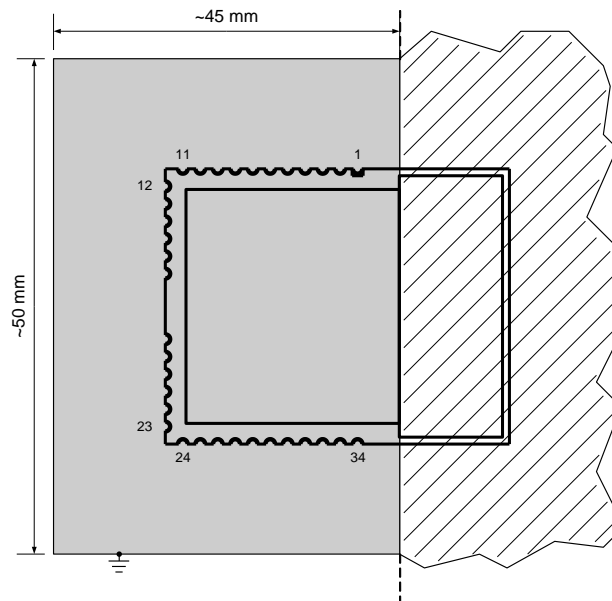

Figure 4-2: Recommended Environment
- As shown in Figure 4-2, the solid grey area must be a ground-plane on the Bottom Layer (or Layer 2 in a multi-layer structure) of the carrier board. Antenna matching and all other measurements have been done with these dimensions.
- The hatched area shown in Figure 4-2 has to be free of material (e.g. PCB, metal, housing). If possible, the distance from the antenna area to any material should be at least $\lambda/2$ ^{see 1}.